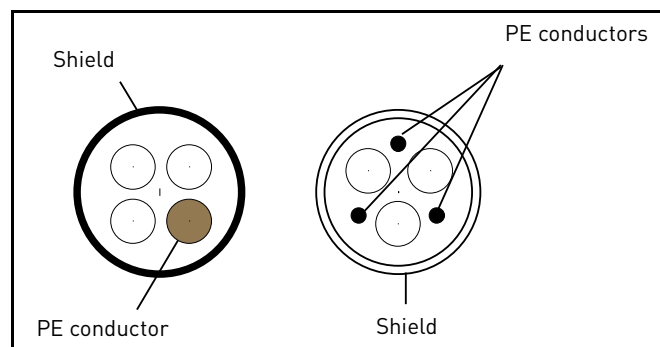

Figure 16.
- 2 = Symmetrical power cable equipped with concentric protection wire and intended for the specific mains voltage. (MCMK or similar recommended). See Figure 16.
- 3 = Symmetrical power cable equipped with compact low-impedance shield and intended for the specific mains voltage. [MCCMK, EMCMK or similar recommended. See Figure 16.